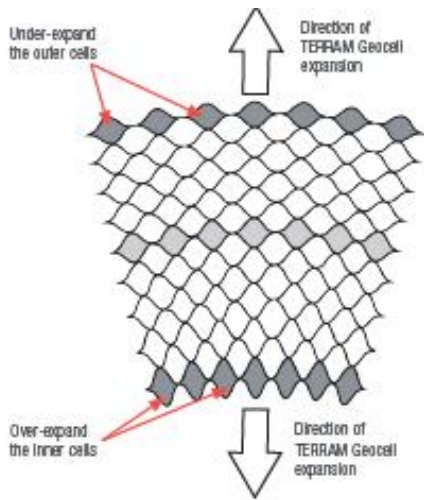

Fig 1: Tapered expansion of section
3. Partially open out the Terram Geocell panel and initially pin in place using steel u-bars (or other approved fixings) along the crest of the slope within the anchor trench. Fully expand the Terram Geocell panel down the slope manually pulling into tension so that the cells are fully open but without undue stress. Pin or infill several cells around the perimeter to hold the cells in an open and fully expanded position. Prior to filling fix every cell around the perimeter and generally on an orthogonal grid at 1m centres down and across the slope. (See figure 1, photo 2 and table 1). Spacing of the Geocell fixings will be determined by the scheme designer and is dependant on the slope gradient, cell size, soil infill depth and the sub grade soil parameters. Please contact us for further guidance on fixings and the appropriate grade of Terram Geocell.
4. Terram Geocell panels are very flexible and easily be installed around obstacles such as trees or structures. Terram Geocell panels can easily be cut to suit using a sharp knife/scissors or joined together by heavy duty galvanised staples installed with a pneumatic heavy duty stapling plier or UV stabilised nylon cable ties. Changes in gradient and curves can easily be accommodated by either allowing some variations in cell shapes and sizes (over or under expanding the cells) or cutting an entire panel at an angle and then stapling to form a taper or L-shape. (See figures 1 to 4).